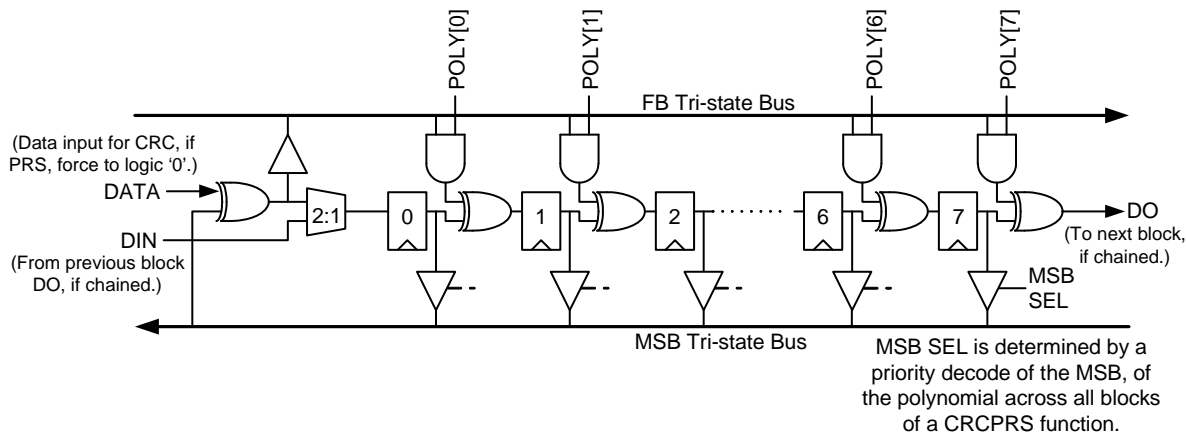

Figure 17-4. CRCPRS LFSR Structure
A Cyclic Redundancy Check/Pseudo Random Sequence (CRCPRS) function consists of a polynomial register, a **Linear Feedback Shift Register (LFSR)**, and a seed register. (See Figure 17-4 on page 340.) When the CRCPRS block is disabled and a **seed value** is written into DR2, the seed value is also loaded into DR0. When the CRCPRS is enabled, and synchronous clock and data are applied to the inputs, a CRC is computed on the **serial** data input stream. When the data input is forced to '0', then the block functions as a pseudo random sequencer (PRS) generator with the output data generated at the clock rate. The most significant bit (MSb) of the CRCPRS function is the primary output.
The LSFR (Linear Feedback Shift register) structure, as shown in Figure 17-4, is implemented as a modular **shift** register generator. The least significant block in the chain inputs the MSb and XORs it with the DATA input, in the case of CRC computation. For PRS computation, the DATA input is forced to logic 0 (by input selection); and therefore, the MSb bus is directly connected to the FB bus. In the case of a chained block, the data input (DIN) comes directly from the data output (DO) of the LFSR in the previous block. The MSb selection, derived from the priority decode of the polynomial, enables one of the tri-state drivers to drive the MSB bus.